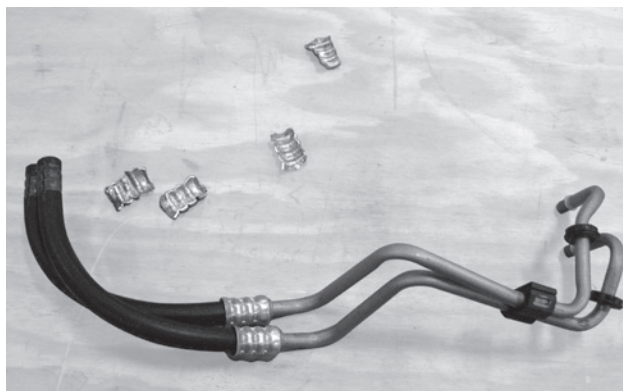
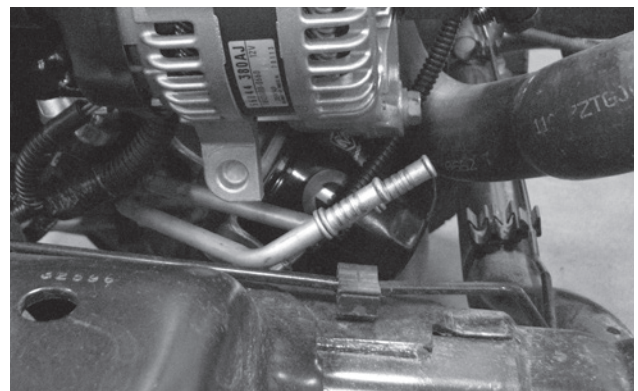

fig. 6
fig. 7
2. Using the Mopar 55038175AA Transmission Cooler lines, remove the OE hose portion (fig. 6) and flare the lines as shown (fig. 7)